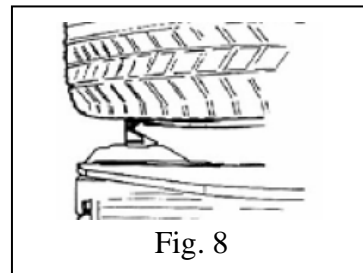

Fig. 8
- According to the operation manual, first deflate the tyre and apart the bead, then lock the rim as in Fig. 8.